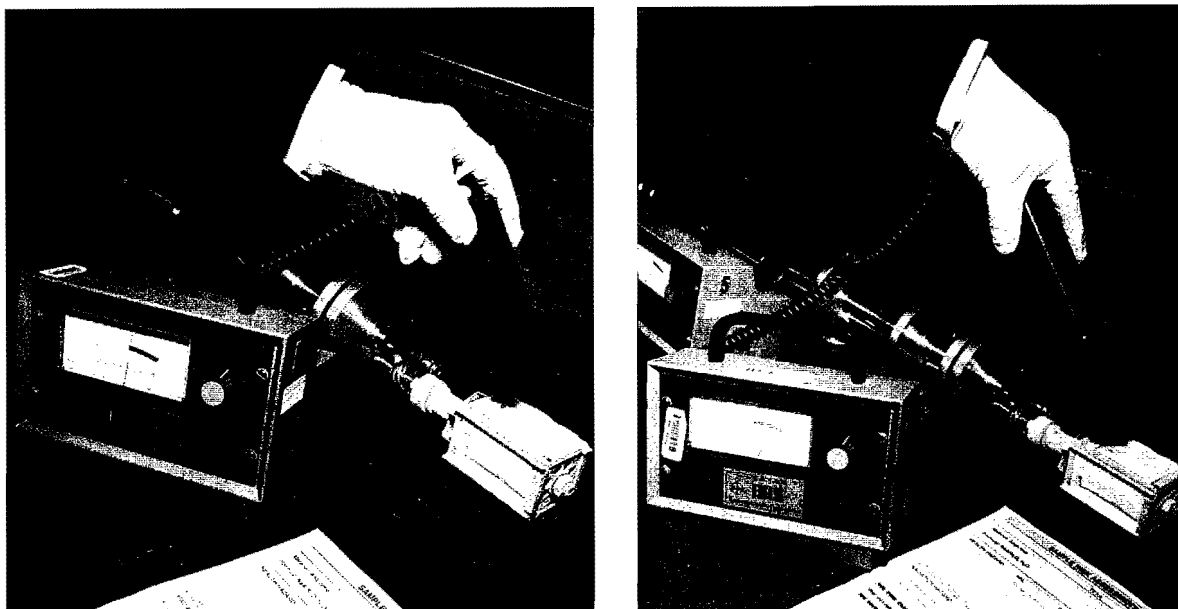

Figure 2.6.1: Testing the sample with  $\beta$  (left) and  $\gamma$  (right) radiation monitors.
4. MONITOR the sample with both  $\gamma$  and  $\beta$  monitors ( $\beta$  monitor cap off, see Figure 2.6.1). If the radiation level is less than  $75 \mu\text{Sv}$  consign the sample to the TFXA active sample cupboard (see below.) If the levels are greater than  $75 \mu\text{Sv}$  inform the **Duty Officer** for instructions (ext: 6789)